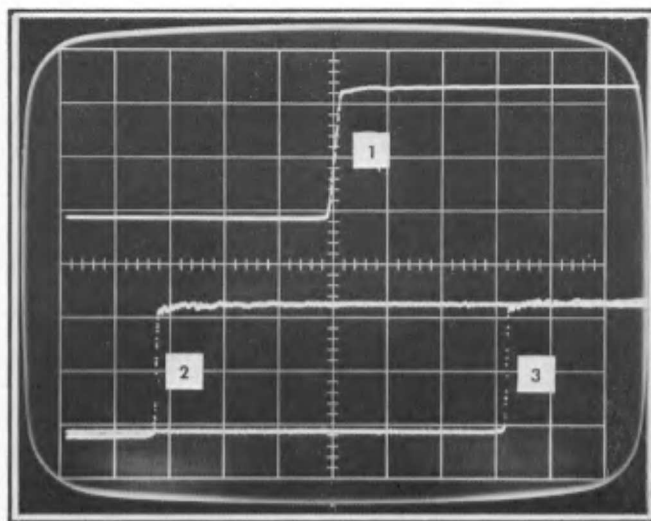

Fig. 7-14. Waveforms for steps 17 and 18, B DELAY control range.
b. Obtain a step display of the signal fed to Channel B. Set the B DELAY control fully counterclockwise and use the sampling sweep unit Time Position controls to move the step so the center of its rise passes to the left of the graticule 2.5 div point; see point no. 1, Fig. 7-14.
c. Turn the B DELAY control fully clockwise. The step display should now be to the right of the graticule 7.5 div point; see point no. 2, Fig. 7-14. Adjust the sampling sweep unit Time Position controls so the two points (no. 1 and no. 2 of Fig. 7-14) fall equal distances on the left and right of the graticule centerline.
d. Move the sampling head to Channel A with the signal cable. The step display should now be at the graticule centerline; see Fig. 7-14, point no. 3. If not, adjust the A